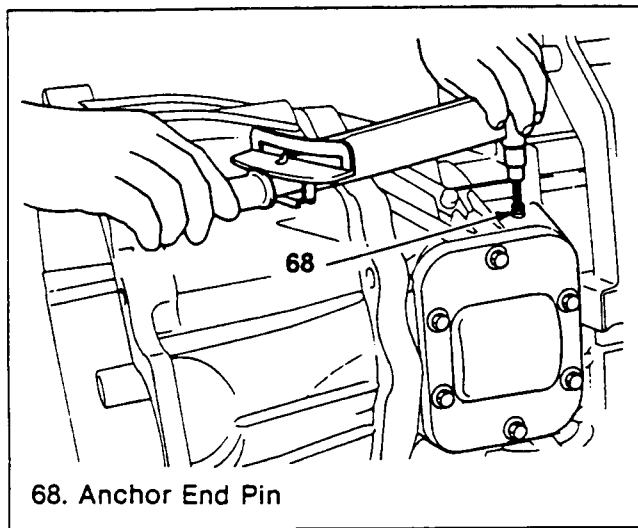

Figure 292. Brake Band Adjustment (1)
Adjustment of the brake band (Figures 292, 293 and 294)
2. Loosen the lock nuts and fasten the anchor end pin (figure 292).